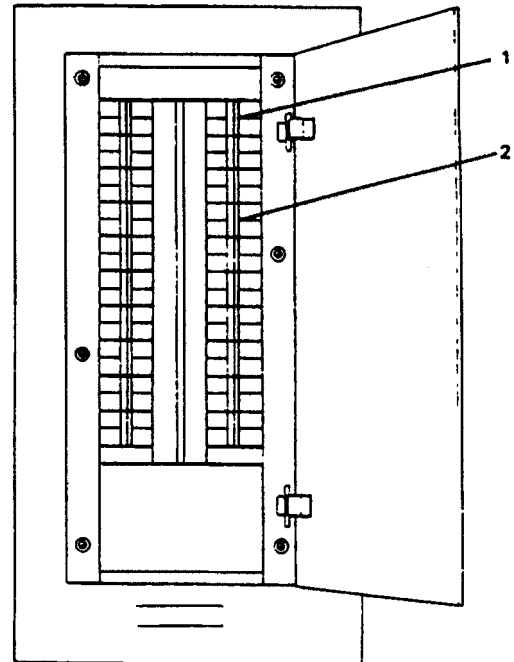

Figure 2-286. Pilothouse Emergency Distribution Panel.
(1) Searchlight. Remove protective cover from lamp.
(2) Pilothouse emergency distribution panel (Figure 2-286). Set following circuit breakers to ON position.
(c) Pilothouse emergency distribution panel (Figure 2-286). Set PORT SEARCH LT and STBD SEARCH LT circuit breakers (1, 2) to OFF position.